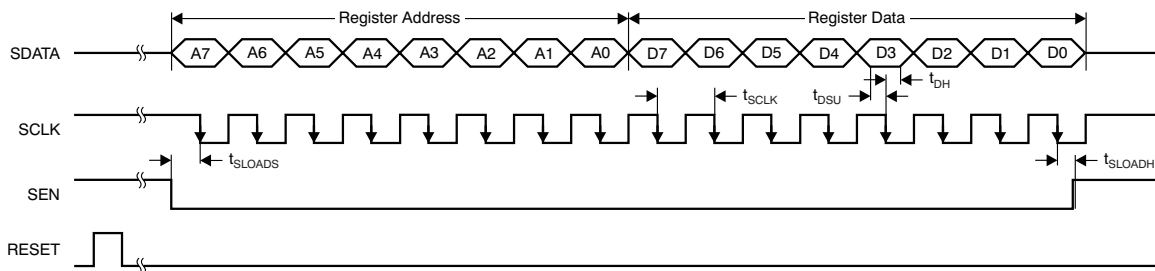

图 47. Serial Interface Timing
1. Either through hardware reset by applying a high pulse on the RESET terminal (of width greater than 10ns), as shown in 图 47; or